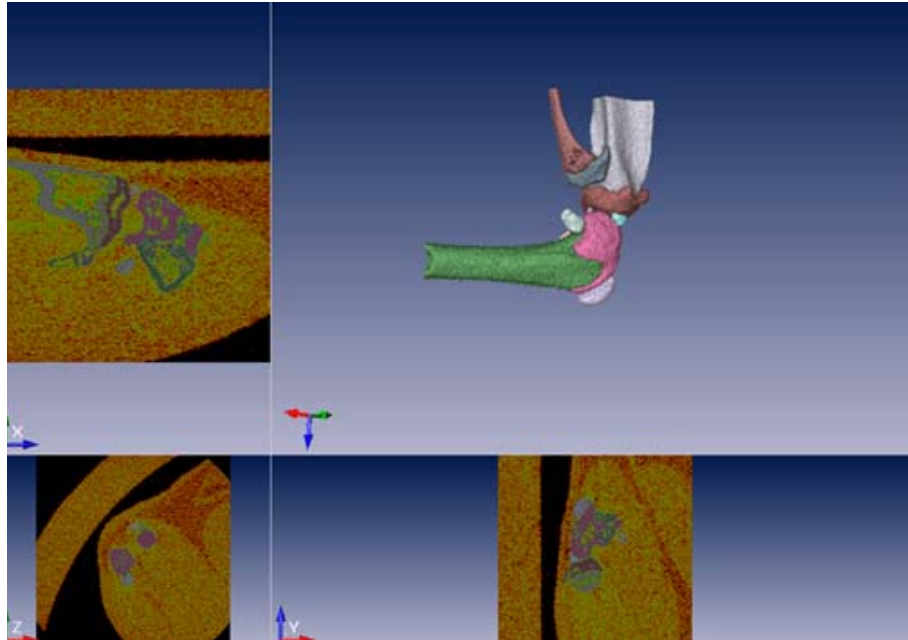

Figure 41. More Segmentation
- 11 Click the **Compute** button in the Segment More step box on the Workflow Viewer Tab. The results of the Segment More step display on the AccuCT Main Window. The selected bone has been further segmented. See Figure 41.